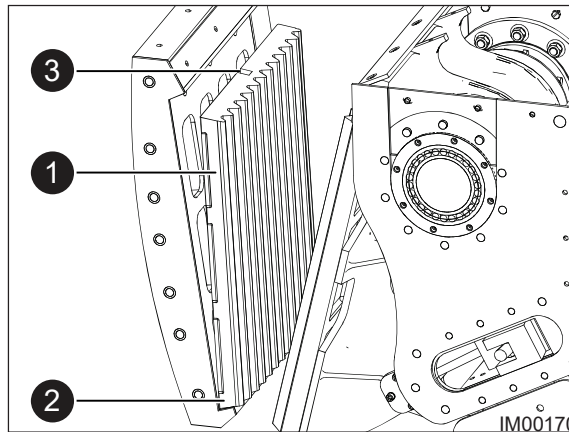

Fig: 11.29 - Attaching Lifting Eye
6. With extreme caution, using a pry bar, pry the jaw plate forward to the position shown (Item 1), ensuring the jaw plate remains in the Holder (Item 2). Ref: Fig: 11.29.
7. Attach an M24 eyebolt and nut into the slot in the jaw plate (Item 3, Fig: 11.29), ensuring that the eyebolt and nut are tight.
13. Lower the jaw plate until it is correctly seated in the Holder (Item 2, Fig: 11.29). The space between the side walls and the jaw plate requires to be even on both sides.
14. With extreme caution, using a pry bar, hold the jaw plate in the upright position (Item 1, Fig: 11.29) and remove the lifting equipment, along with the M24 eyebolt and nut. Do not use hands to remove. Slacken the lifting equipment and allow the eyebolt to come out freely.